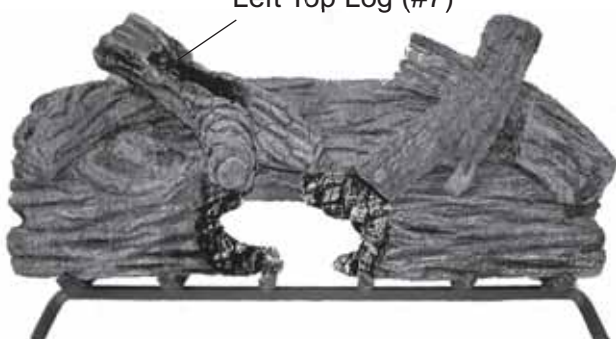

Figure 33 - Installing Left Top Log (#7)
8. Install left top log #7 as shown. *See Figure 33.*